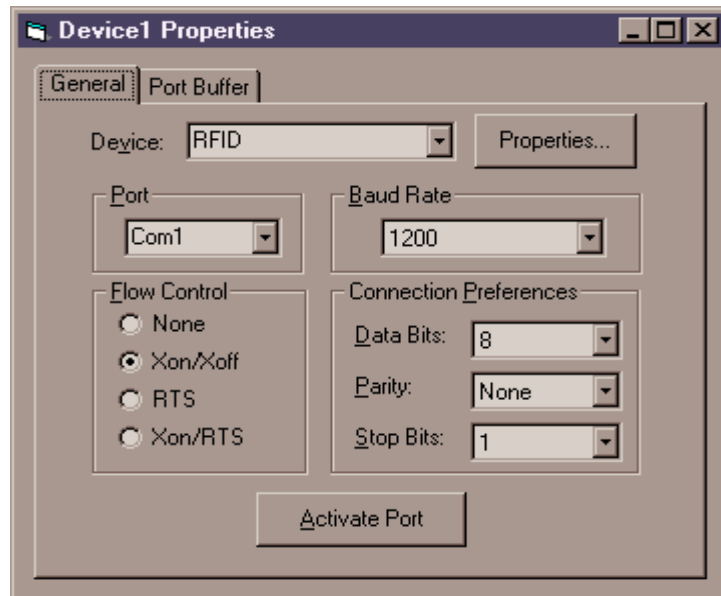
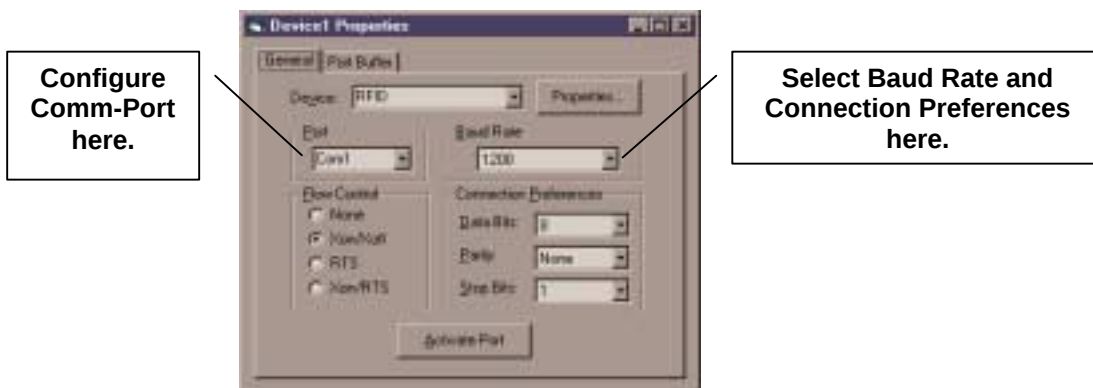

Figure 15
Figure 16
- Once you've clicked on the "port" button for device 1, the properties form will display [See figure 15]. From here you can configure AgInfoPorts to the device you choose. Plug the Tag Tracker Base-Station into your PC serial port, Windows95-98 usually assigns this as Comm1. So you would select "Com1" from the "Port" menu. [Figure 16].
- Verify that AgInfoPorts matches the Baud rate and Connection preferences from your device. You can do this in the Baud Rate and Connection Preferences menu [Figure 16].